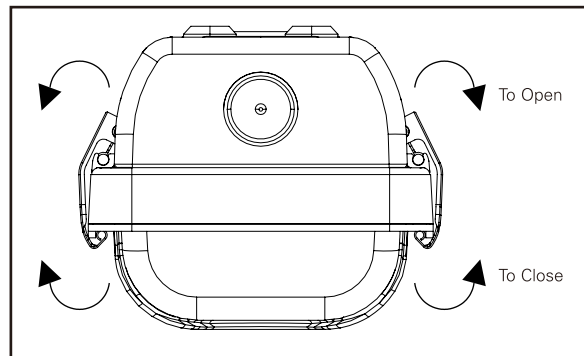

Figure 6.
6. Release latches by pulling top of latch away from housing to Open Fixture. Push Latch towards housing to Close Fixture (Figure 6)